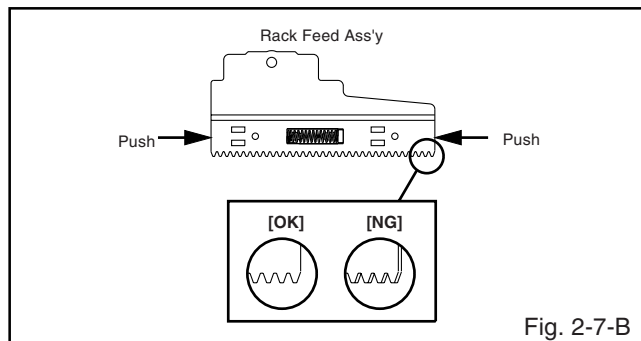

Fig. 2-7-B
4. After the assembly of the Traverse Ass'y, hook the wire on the Traverse Ass'y as shown Fig. 2-7-E.